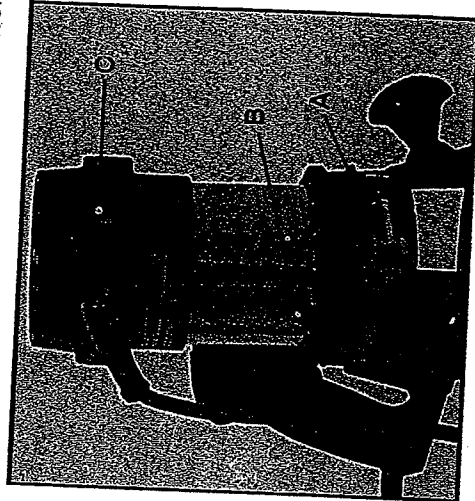

Fig. 3
2. Loosen clamp screw (A), Fig. 3, to allow the power unit to be set in the base unit.
3. With the motor switch (C) positioned as shown in Fig. 3, insert the motor unit into the base aligning lower pin (B) with groove in base.